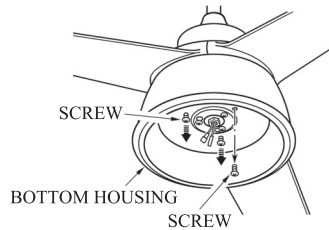

FIG.15
1. Remove one screw and loosen 2 screws from Light kit plate. (see Fig.15)